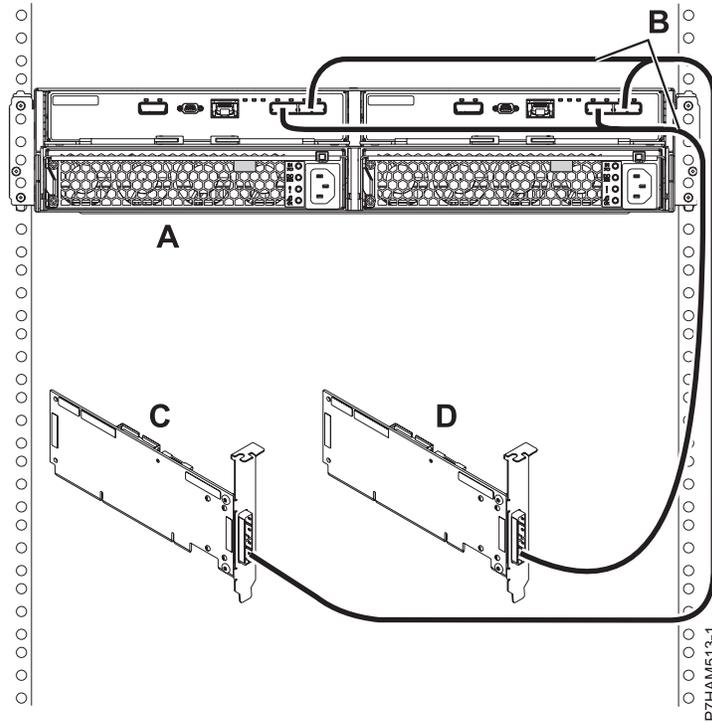

Figure 41. Mode 2 connection of one 58/87 disk drive enclosure by using XO cables to two independent SAS adapters
15. Perform the mode 2 connection of one 58/87 disk drive enclosure (**A**) by using YO cables (**B**) to two independent SAS adapters as shown in Figure 41 on page 74.